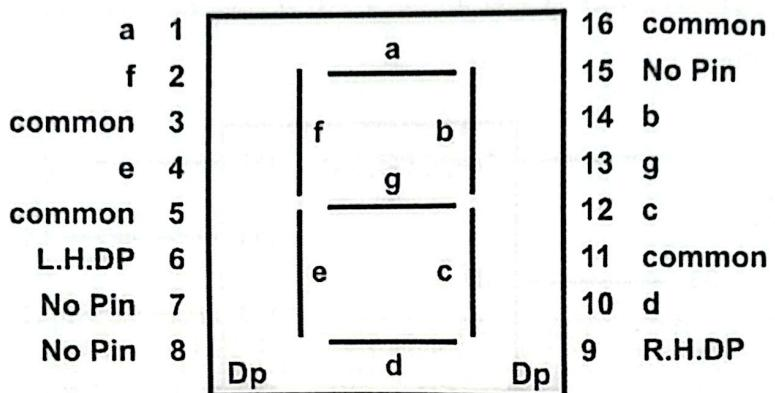

Fig. 13.2
4. Wire the circuit according to the diagram shown above by consulting data sheet of Common Anode display in fig 13.2.